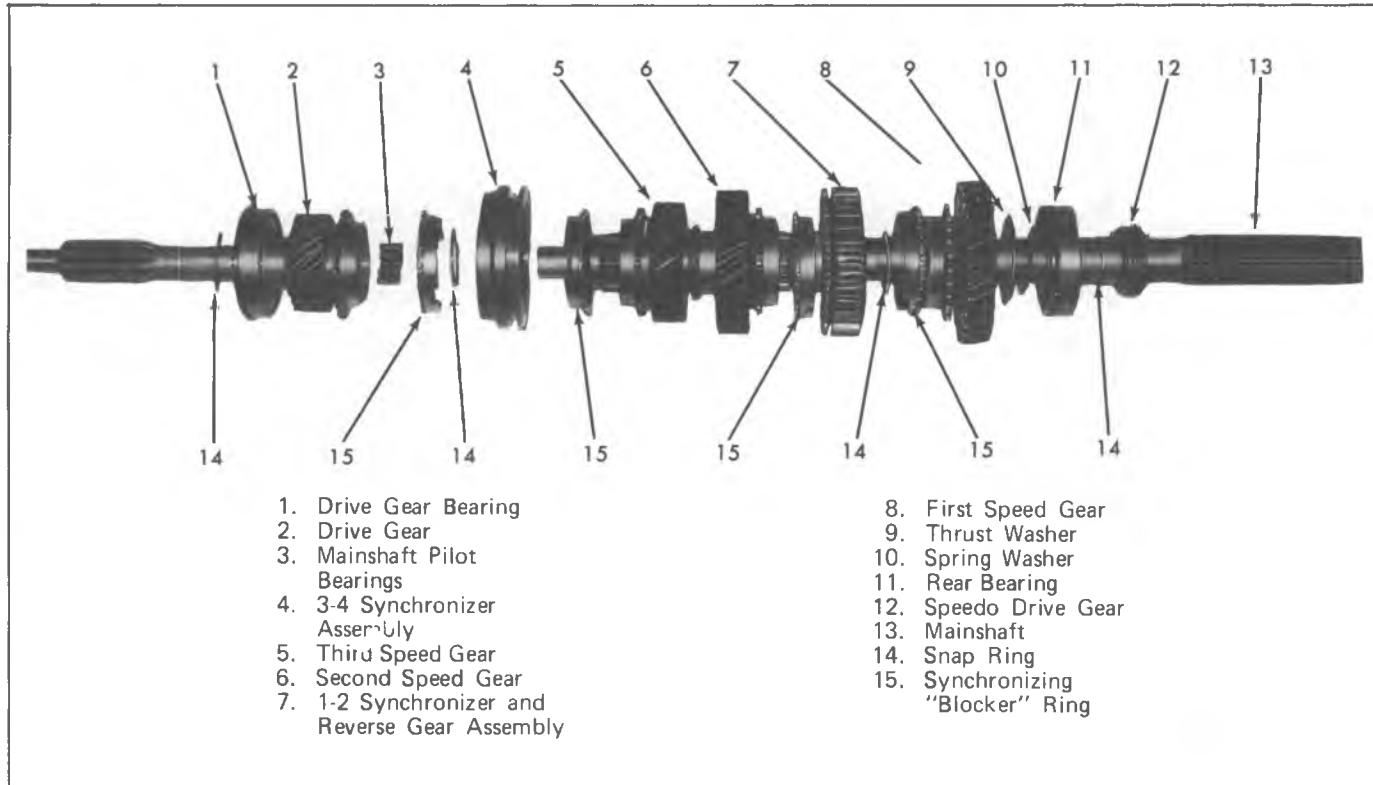

Fig. 7B-16J--Clutch Gear and Mainshaft Details
8. Install synchronizer hub to mainshaft snap ring (Fig. 7B-10J).